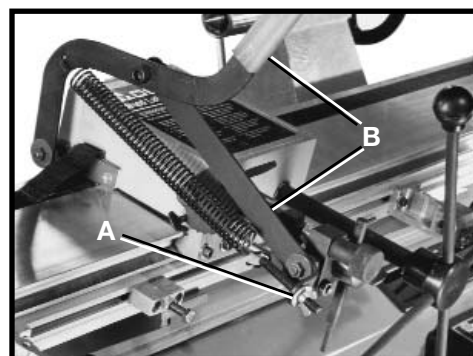

Fig. 71
Turning wing nut (A) Fig. 71 clockwise increases spring tension on tool engagement handle (B). Turning wing nut (A) counter-clockwise decreases spring tension on the handle (B). **NOTE:** Proper spring tension is determined by the operator.